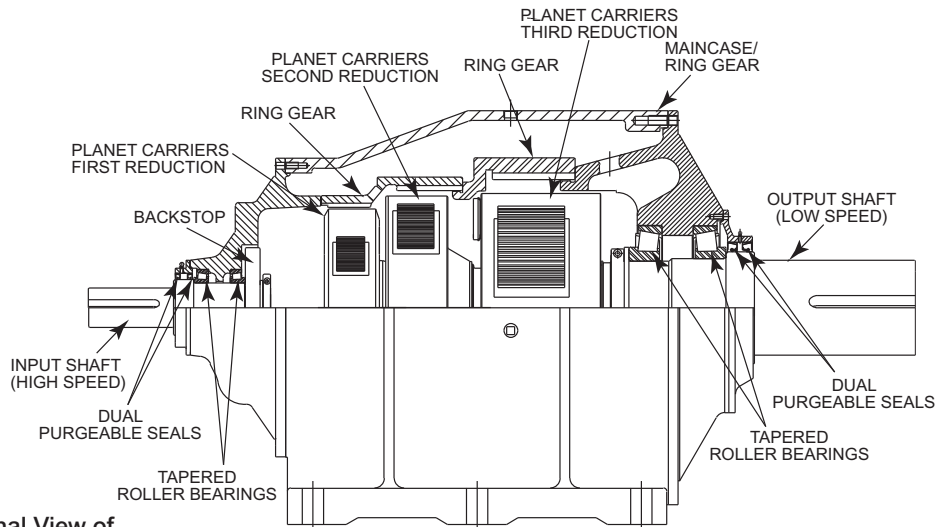

Figure 1.2 Sectional View of a Planetgear Speed Reducer
The Planetgear 7000 unit is a concentric shaft speed reducer that uses a simple planetary design, which utilizes a sun gear as the input, a ring gear as the fixed element, and a planetary carrier as the output. Power is transmitted from the reducer input shaft, through a splined connection to the input gear (sun gear) of the first reduction. The input gear drives the planet gears, which in turn drive the planetary carrier assembly. This carrier assembly is then connected to the next reduction sun gear or to the output shaft through a splined connection. Each carrier represents a single reduction. The reducer output shaft rotates in the same direction as the input shaft, regardless of the number of reductions. Reference Figure 1.2 for a detailed representation.
1.2 SECTIONAL VIEW AND COMPONENT IDENTIFICATION Reference Figure 1.2